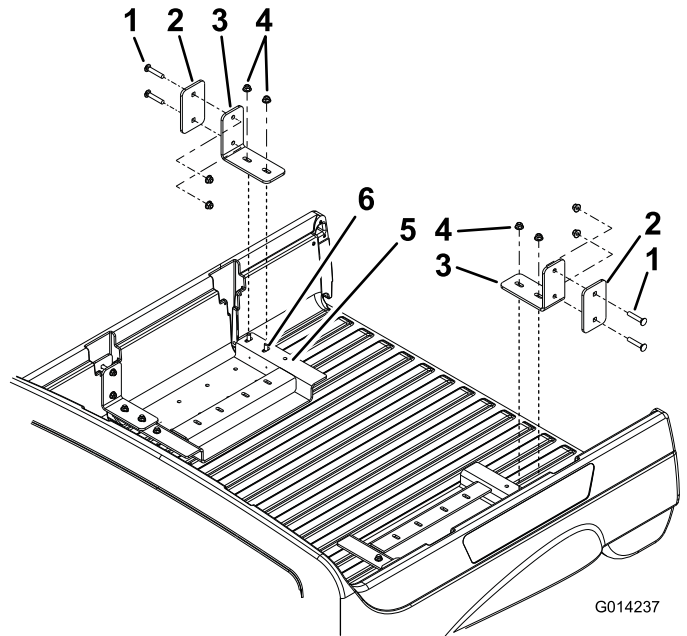

Figure 3
3. For mid-duty vehicles 2010 and older, install the 4 friction lock plates into the slots and install the 4 mounting brackets to the skid plates and friction lock plates with 8 carriage bolts (3/8 x 1 inch), 8 carriage bolts (3/8 x 2 inches) and 16 flange nuts (3/8 inch) (Figure 3).